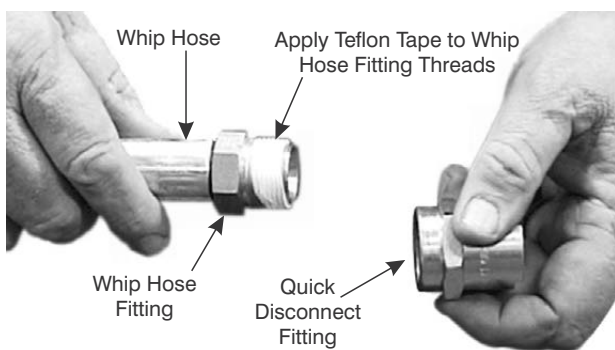

Figure 11-10. Apply Teflon Tape to Hose Fitting.
5. At the free end of the Whip Hose, wrap the external threads of the hose fitting with tape as shown in Figure 11-10.